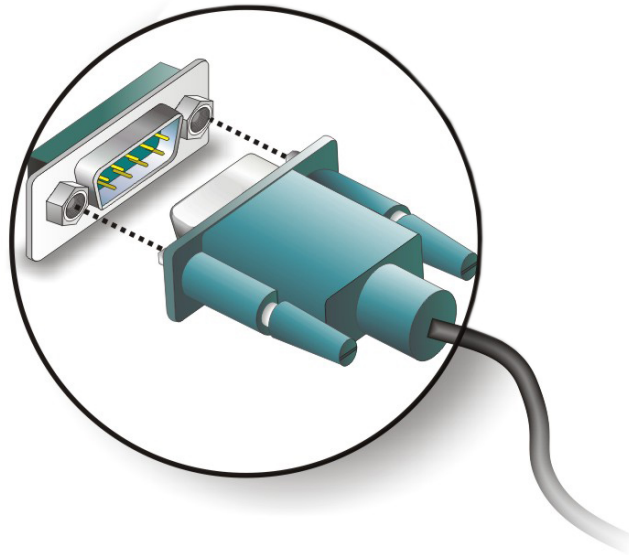

Figure 5-20: Serial Device Connector
Step 2: Insert the serial connector. Insert the DB-9 connector of a serial device into the DB-9 connector on the external peripheral interface. See Figure 5-20.